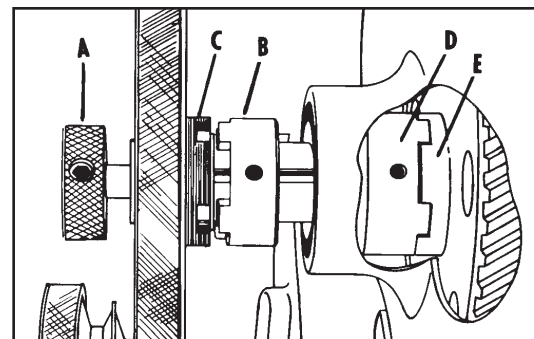

Fig. 31
When using the machine for metal cutting (40, 60, 85, 115, 160, 220, and 335 SFM), push the shifter knob (A) Fig. 31 all the way in, disengaging the clutch (B) from the hub (C) of the pulley. An additional clutch (D) is located inside the band saw. It must be engaged with the hub (E) of the gear that transmits power through the gear box. When pushing in on the shifter knob (A) Fig. 31, rotate the lower wheel of the band saw to feel when the engagement occurs.